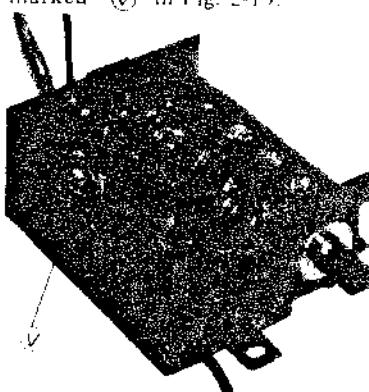

Fig. 2-19
5. Unsolder the braided wire at the if transformer case marked (V) in Fig. 2-19.